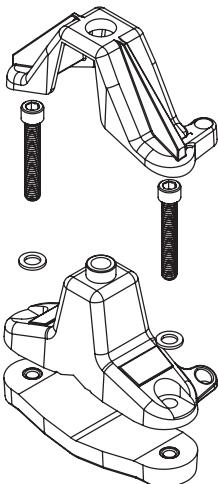

Figure 4
7. For the **Nose Cone Section** mount, position the mounting assembly over the front crossbar making sure the reel housing is sitting on the rear crossbar with enough room to mount in the next step. Once the proper position has been found, flip unit over and tighten the king bolts securing the **Nose Cone Mounting Assembly** in place. Flip unit back over and place **Rack Clamp Feet** underneath front crossbar and secure with **Small Washer** and **2" Rack Clamp Bolt** (for Thule Xporter use **2.5" King Bolts**) as shown in **Figure 4**